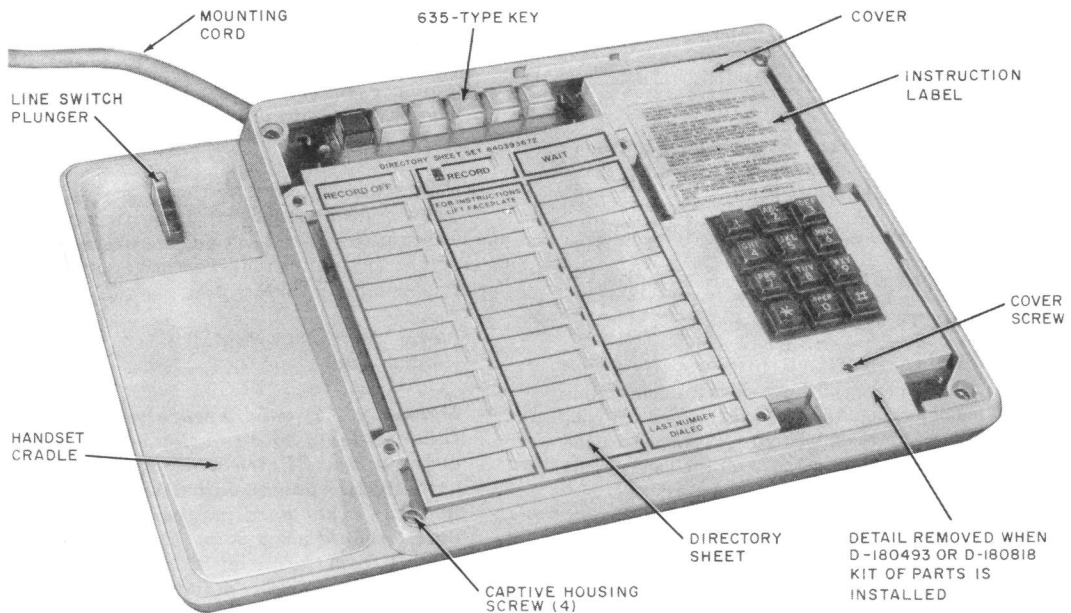

Fig. 2—2872A2M Telephone Set, Faceplate and Handset Removed
##### 2.10 Operating features (Fig. 2) are as follows.
**3.05** The directory sheets (Fig. 2) fit over the buttons of the memory and are held in place by the faceplate. Additional sheets are available in the directory sheet set, 840393672.
- (5) Make connections per Table C, E, or F.
- (6) Break off the detail at the bottom of the cover (Fig. 2) and trim edge as required.
- (7) Verify correct operation of the option.
- (8) Reassemble set.